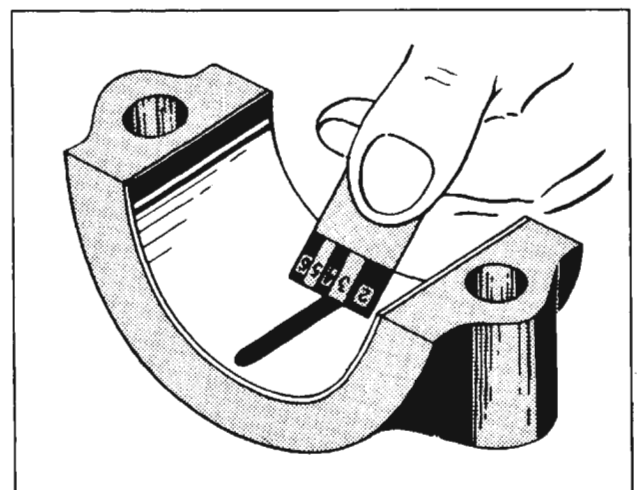

Fig. 8-31 Checking Bearing Clearance
8. Remove bearing cap and determine bearing clearances by comparing the width of the flattened "Plastigauge" at its widest point with the graduation on the "Plastigauge" container. The number within the graduation on the envelope indicates the clearance in thousandths of an inch. (Fig. 8-31) If this clearance is greater than .0035", replace the bearing and recheck clearance with "Plastigauge".
5. Remove bearing cap and determine bearing clearance by comparing the width of the flattened "Plastigauge" at its widest point with the graduation on the "Plastigauge" container. The number within the graduation on the envelope indicates the clearance in thousandths of an inch. (Fig. 8-31) If this clearance is greater than .0035" for No. 1, 2, 3 or 4 bearings and .0045" for No. 5 bearing, REPLACE BOTH BEARING SHELLS AS A SET. Recheck clearance after replacing shells. (Refer to MAIN BEARINGS - REPLACE).